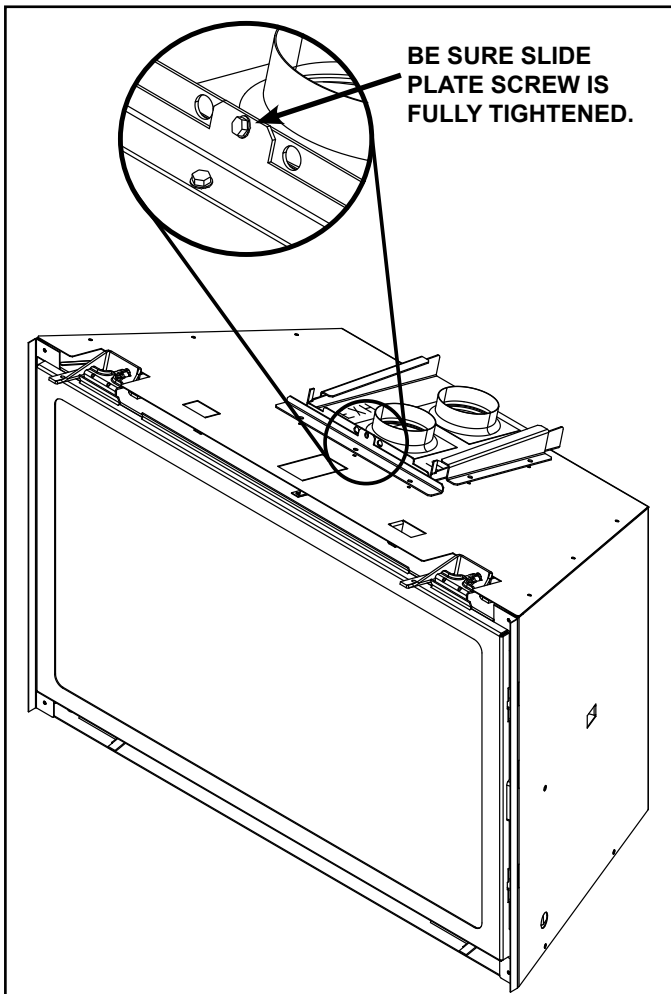

Figure 3.3 Collar slide Plate Screw Detail
- Verify collar slide plate screw is attached see Figure 3.3.